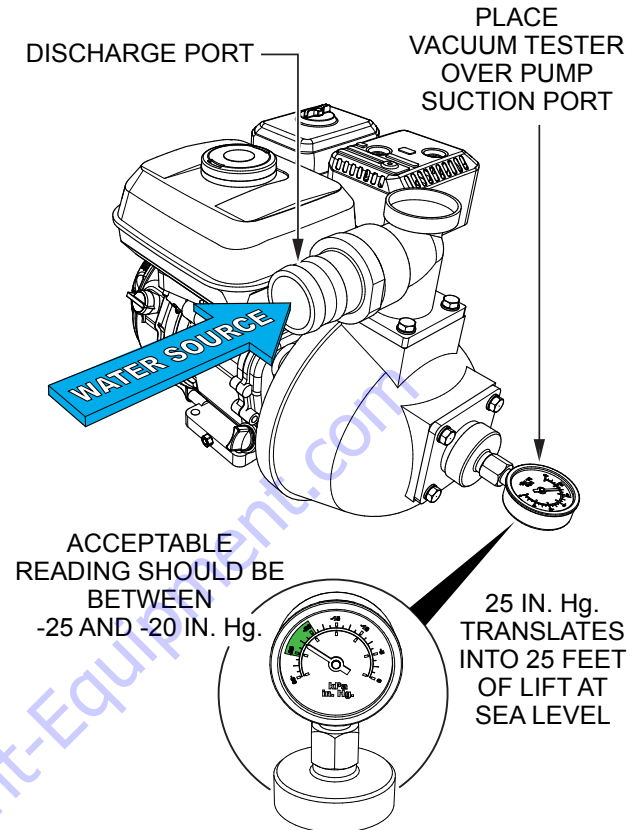

Figure 29. Pump Vacuum Test
3. As shown in Figure 29, place a water hose inside the discharge opening of the pump, and turn on the water. This flow of water into the discharge opening will prevent the pump from running dry.